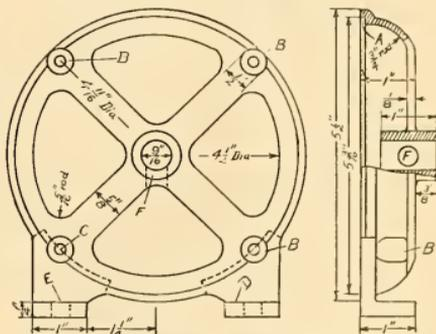
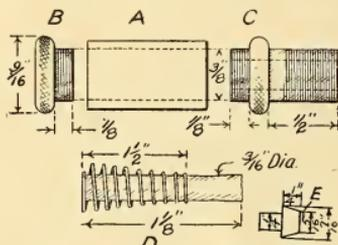

Fig. 3. Finished Bearing Housing
Fig. 4. Grease Cup and Core Print
Fig. 3 dimensions the finished bearing housing, of which two are required. Both housings are alike, so only one pattern need be made. The material for the patterns is  $\frac{1}{4}$  inch white pine. Mount a wooden block on the faceplate of the lathe and on this glue six pieces of white pine, first gluing a piece of
is dimensioned in Fig. 4 at (E). This core print is glued in a  $\frac{1}{4}$  inch hole drilled in the bearing hubs. One print is required on each side. The base lugs (D), Fig. 3, are cut from some white pine, and glued into a slot cut in the pattern as shown by the dotted line, Fig. 3. All corners should be rounded out with fillet or beeswax. The pattern should then be sandpapered well using No. 0 sandpaper and receive a coat of shellac. This will raise the grain of the wood. Sandpaper again, and give two coats of shellac. This completes the pattern for the housing. Two castings will be required.
When the castings come from the foundry, clean them well with a grinding wheel, emery cloth, and a file. Chuck the housing casting in the lathe and bore the hub out to  $\frac{1}{8}$  inch for the bushing. Next mount the housing on a mandrel, bracing it well and face both sides of the hub and the bosses. The recess (A) on the inside is turned  $5\frac{3}{16}$  inches in diameter and  $\frac{1}{8}$  inch deep. The recess should be a tight fit over the outside of the stator core. Remove the housing from the lathe and drill the holes (E) in the feet and (B), Fig. 3, in the bosses. The holes in the bosses are drilled  $\frac{1}{4}$  inch to give ample allow-
The bearings are phosphor bronze bushings. These are one inch long, bored out to  $\frac{5}{16}$  inch in diameter, and then mounted on a mandrel and turned down to  $\frac{1}{8}$  inch in diameter. Drive the bushings in place, and drill and tap the  $\frac{3}{8}$  inch hole (F), Fig. 3, for the grease cup. This
The lubrication is provided by means of a wick hanging in a grease cup. The grease cup is illustrated and dimensioned in Fig. 4. The body (A) of the grease cup is made of a brass tube threaded  $\frac{3}{8}$  inch, for a short distance on each end, internally. The two caps (B) and (C) are also made of brass, and are threaded to screw into the part (A). The cap (C) has a  $\frac{1}{8}$  inch hole drilled through it for the wick. The wick has a short piece of brass spring wire coiled around and bound to it, as at (D), to force the wick up against the rotor shaft. Soft grease should be used in this cup.